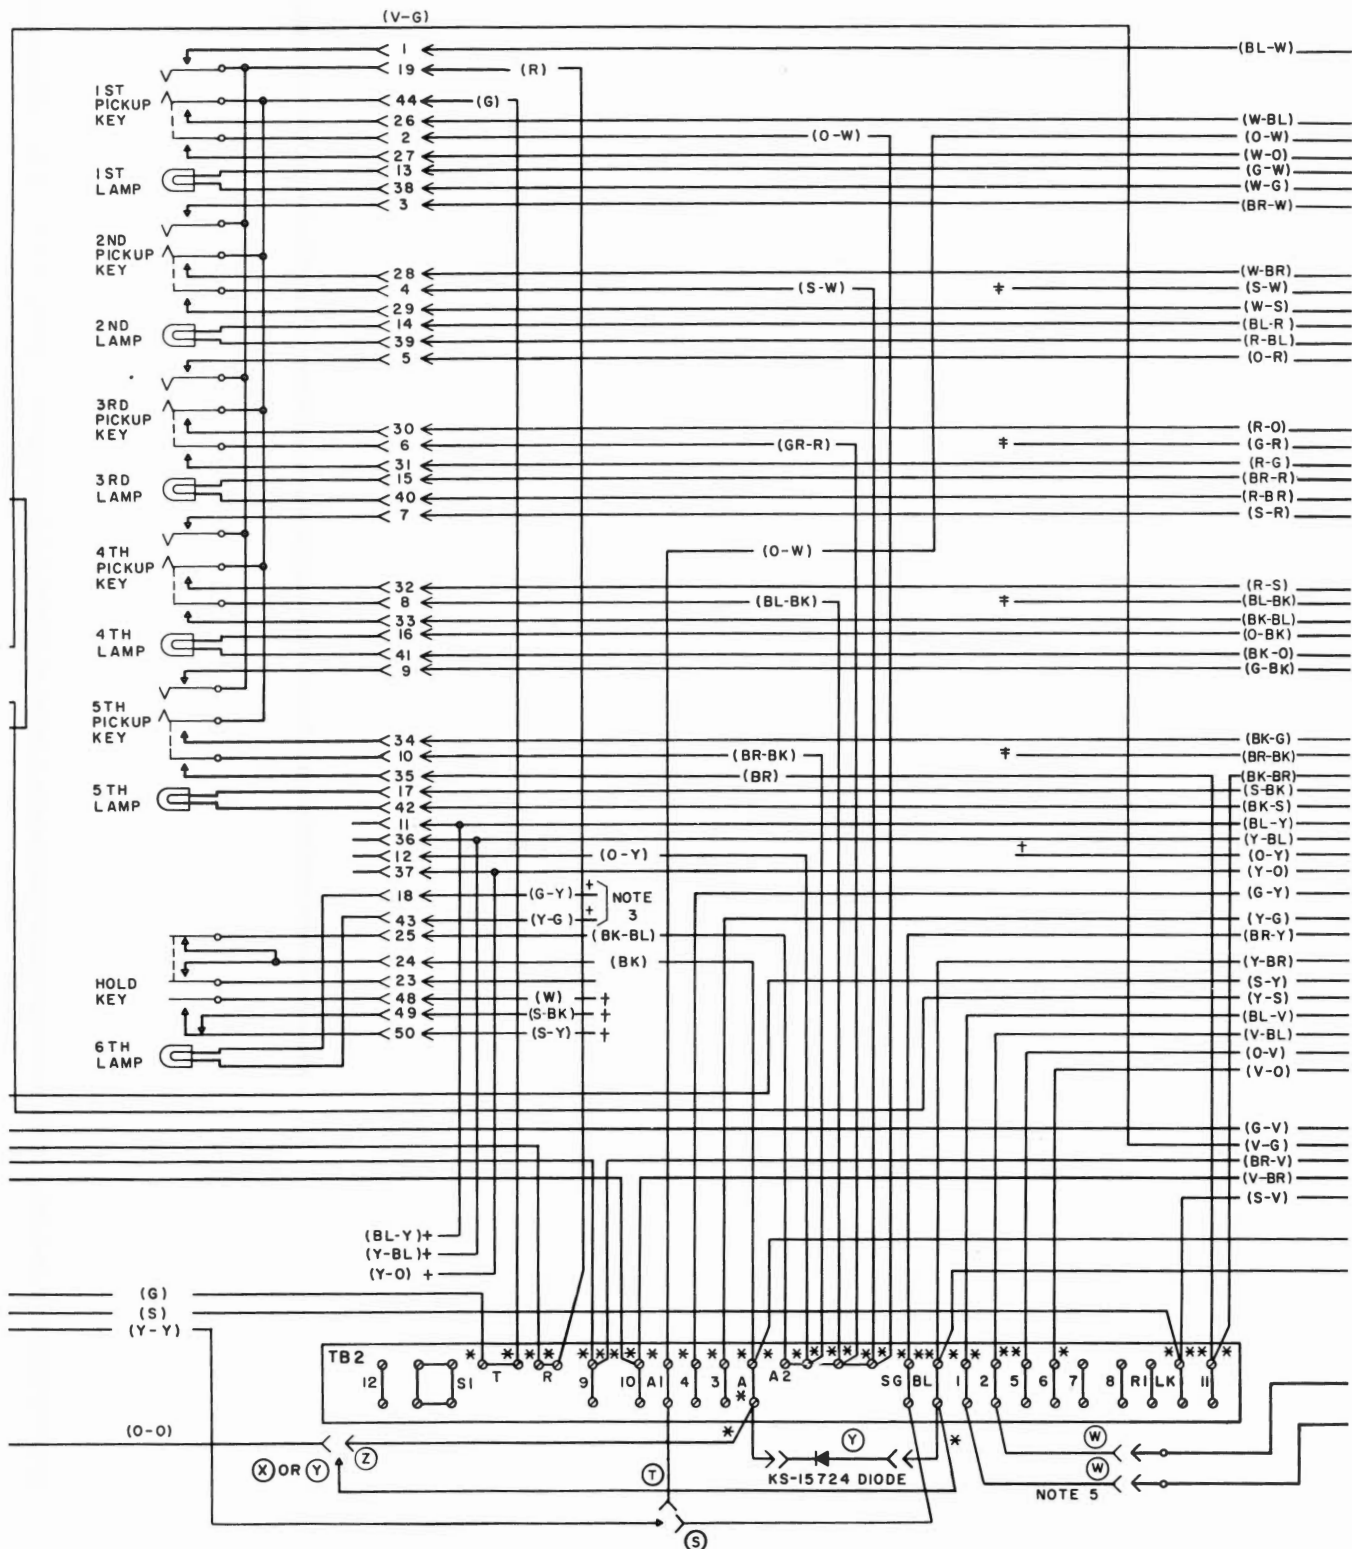

Fig. 5 - 661A1 Telephone Set with 599A Key
5.01 Connections for 661A1 with 599A key are shown in Fig. 5.
5.04 The schematic drawings (Fig. 5, 6, and 7) show only a portion of the 40A dial circuit. See section covering station dials, 40 type, for complete schematic drawing and description of dial.